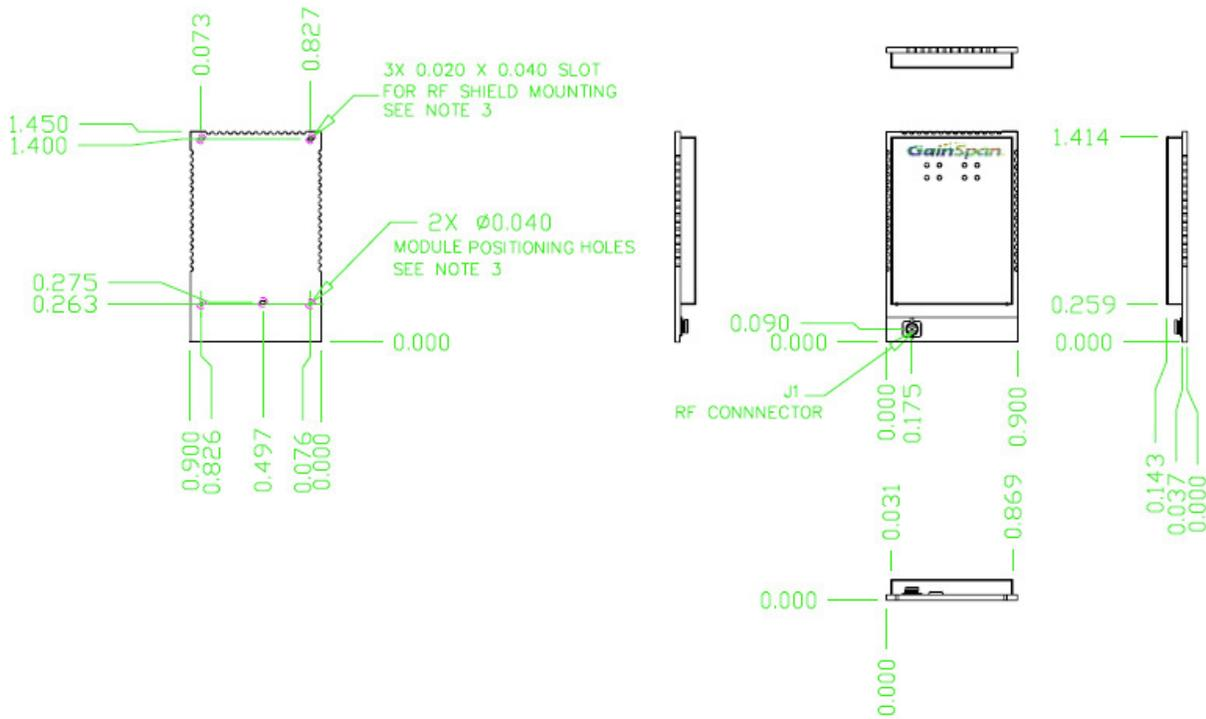

Figure 5-4: GS1011MEx Module Dimensions (in inches)
- The PCB antenna keep out area, as shown in Figure 5-4, must be adhered to (i.e. No ground, power trace/plane, traces; all layers of PCB, in the keep out area, must be clear), or the over the air range of the GS1011MxP will be compromised.